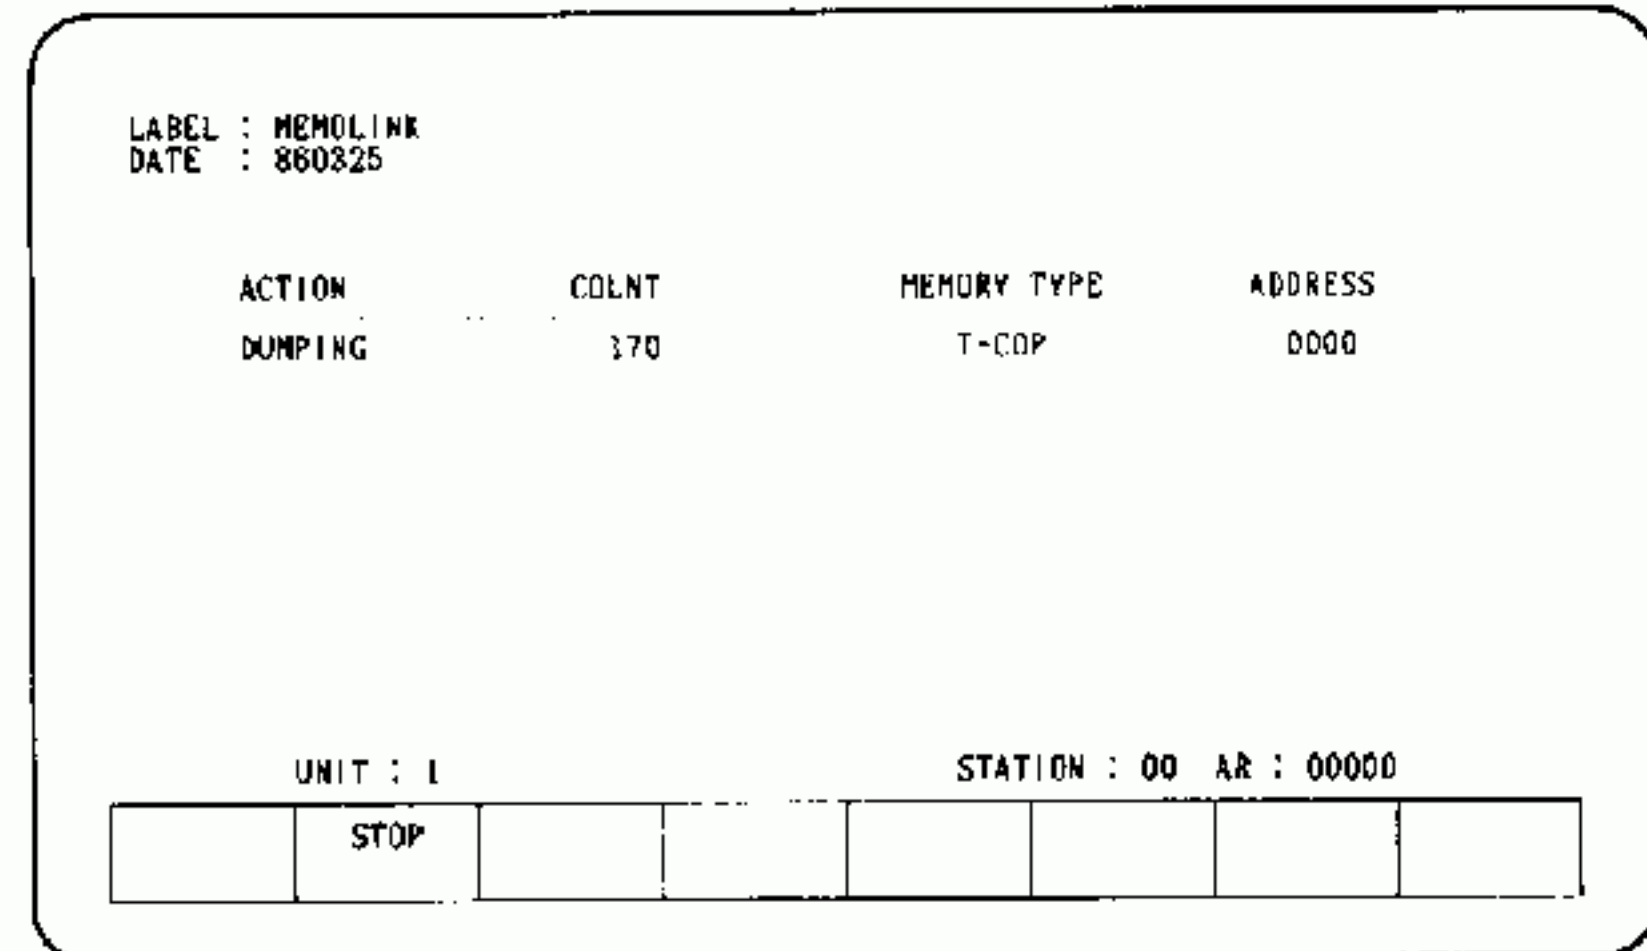

Fig. 5.1.100
2. If "STOP" is depressed in Fig. 5.1.100, Fig.5.1.101 is displayed. If "PROCEED" is depressed, the dump is continued. If "ABORT" is depressed, the operation stops, and Fig.5.1.98 is displayed again.
(3) Loading Allocation Data